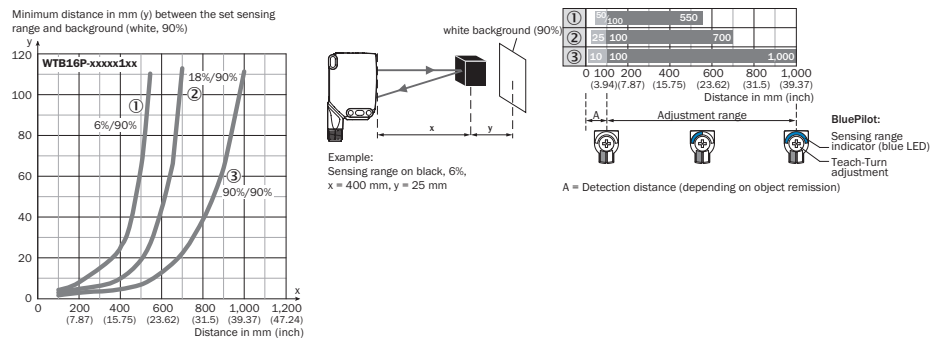

Figure 5: Characteristic line 1, WTB16P Bluetooth-xxxx1xx, red light
Check the application conditions: Adjust the sensing range and distance to the object or background and the remission capability of the object according to the corresponding diagram [see figure 5 and 7] (x = sensing range, y = minimum distance between set sensing range and background (white, 90%) Remission: 6% = black ①, 18% = gray ②, 90% = white ③ (referring to standard white as per DIN 5033). We recommend making the adjustments using an object with a low remission.
The minimum distance (= y) for background suppression can be determined from diagram [figure 5 ①] as follows: